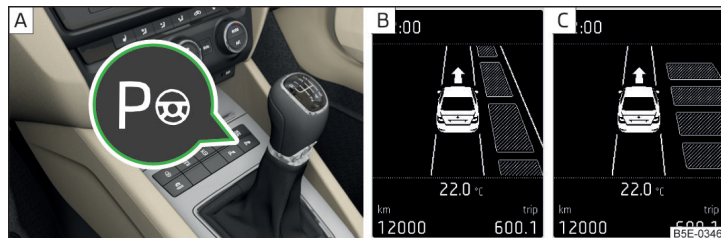

Fig. 144 System button / display
When the system is activated, the warning light lights up **P** » Fig. 144 on page 145 - **A**.
- Press the symbol button once **P** » Fig. 144 .
The display shows » Fig. 144 - **B**.
- › Press the symbol button **P**  twice **P**  » Fig. 144 .
The display shows the following » Fig. 144 - **C**.
- › Press the symbol button once  » Fig. 144 on page 145.